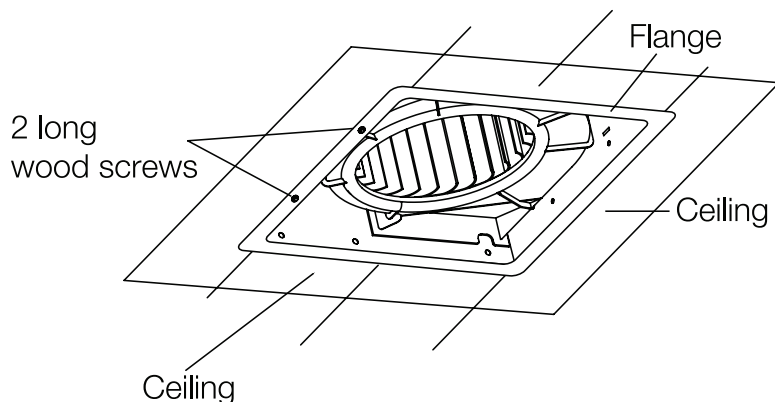

Fig. 4
5. Finish ceiling work. Ceiling hole should be flush with the edge of the flange. Do not flush mount to joist. Flange should be flush with ceiling board. See dimension for ceiling hole on page 3 (Fig. 4). If a joist is present, insert long wood screws through flange and through ceiling to secure fan to joist.